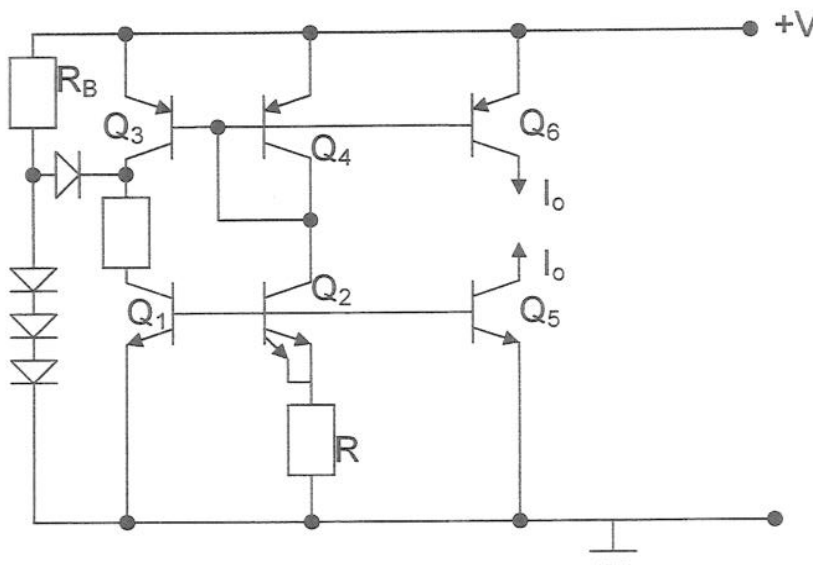

Figure 1.1
- (b) Calculate the fractional temperature coefficient for the constant current generator of Figure 1.1 at room temperature, given that  $R$  is a polysilicon resistor with a temperature coefficient of  $1500$  ppm/ $^\circ\text{C}$ .